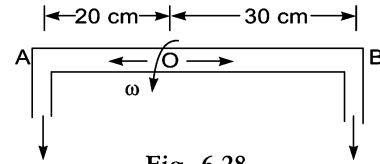

Fig. 6.28
**Problem 6.36** A lawn sprinkler with two nozzles of diameter 4 mm each is connected across a tap of water as shown in Fig. 6.28. The nozzles are at a distance of 30 cm and 20 cm from the centre of the tap. The rate of flow of water through tap is  $120 \text{ cm}^3/\text{s}$ . The nozzles discharge water in the downward direction. Determine the angular speed at which the sprinkler will rotate free.
The jet of water coming out from nozzles A and B is having velocity 4.777 m/s. These jets of water will exert force in the opposite direction, *i.e.*, force exerted by the jets will be in the upward direction. The torque exerted will also be in the opposite direction. Hence torque at B will be in the anti-clockwise direction and at A in the clockwise direction. But torque at B is more than the torque at A and hence sprinkler, if free, will rotate in the anti-clockwise direction as shown in Fig. 6.28.
Here  $\omega \times r_A$  is added to  $V_A$  as  $V_A$  and tangential velocity due to rotation ( $\omega \times r_A$ ) are in the same direction as shown in Fig. 6.28.